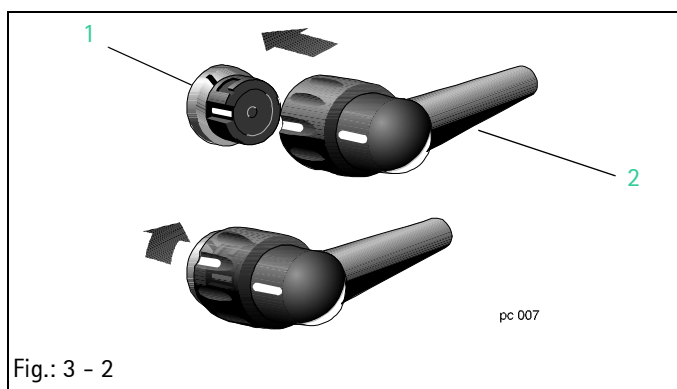

Fig.: 3 - 2
Legende zu Abb. 3 - 2:
1. Connect service cable (Fig.: 3 - 2 / Item 2) to MFC connector (Fig.: 3 - 2 / Item 1) and the PC serial port (COM 1 or COM 2).